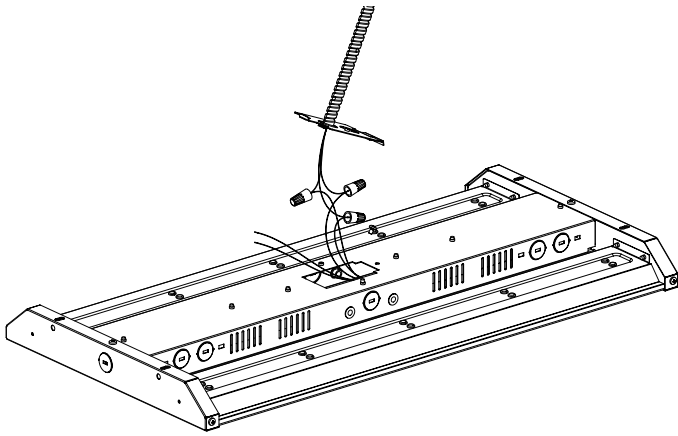

Figure 10-A
- Connect the LED high bay wiring to line wire, black to black, white to white, and green to ground wire; secure each connection with wire nuts. Purple & grey leads inside the driver compartment are 0-10V (low voltage) dimming leads, connect to incoming dimming low voltage wiring when controlling luminaire light levels via external signal. (Figure 10-A)